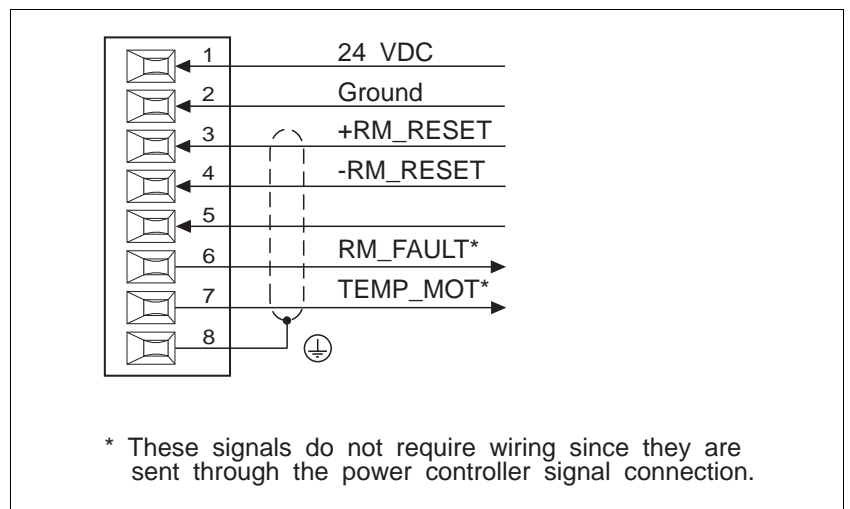

Fig. 2-7 Rotation monitoring connection
1. Release the two screws and remove the connector (fig. 2-7) from the unit.
Fig. 2-7 connexion moteur
2. Fasten the litz wires with screws on the connector of the rotation monitoring connection as illustrated in figure 2-7.
3. Plug the connector into the front panel (item 02).